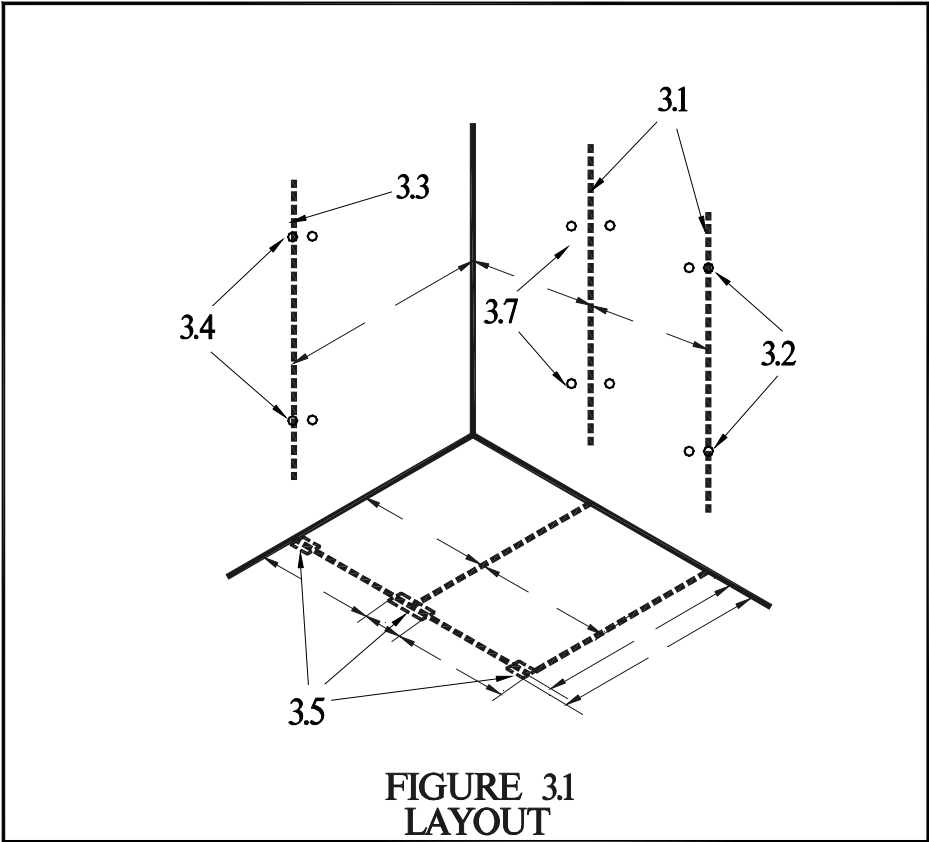

FIGURE 3.1
- 3.1 Establish and mark the center of the panels across the back wall according to shop drawings. For end-panels and alcove-panels mark the outer edge. (See fig.3.1)
- 3.3 Establish and mark the wall-pilaster location on the side wall according to shop drawings. (See fig.3.1)
- 3.5 Establish and mark the outer edges of each pilaster from the back and side walls according to shop drawings. (See fig.3.1)
- 3.7 Mark wall bracket mounting holes using the brackets as a template. Center and level the brackets before marking (See fig.3.1). For end-panels and alcove-panels use the outer edge.